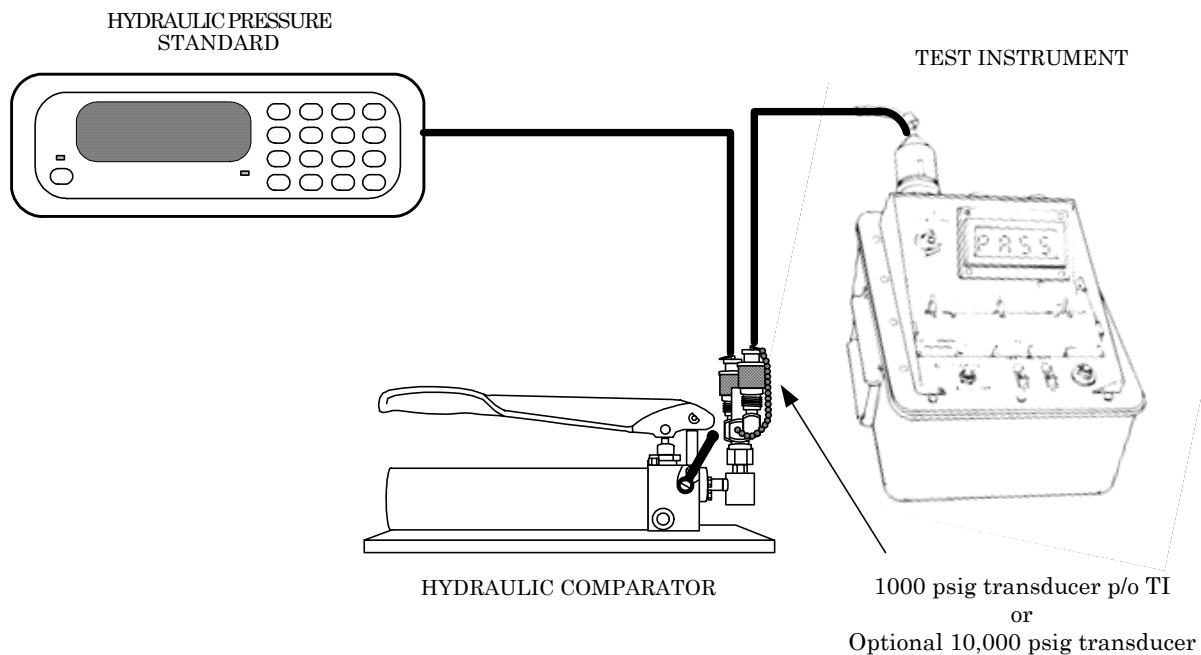

Figure 2. Pressure - equipment setup (1000/10,000 psi).
- (1) Connect equipment as shown in figure 2.
- (17) Connect equipment as shown in figure 2.
- (18) Set **TEST SELECT** switches to **51**.
- (19) Operate hydraulic pressure standard to apply 10,000 psi and return to **0** three times.
- (20) With pressure at **0**, press and hold **TEST** pushbutton until **CAL** appears on TI display. Release **TEST** pushbutton.
- (21) Wait for offset value to appear on display. Offset value will be between **-450** and **+450**.
- (22) Press and release **TEST** pushbutton.
- (23) Operate hydraulic pressure standard to apply 3000 psi. TI will indicate between 2775 and 3225.
- (24) Operate hydraulic pressure standard to apply 9500 psi. TI will indicate between 9112 and 9888.